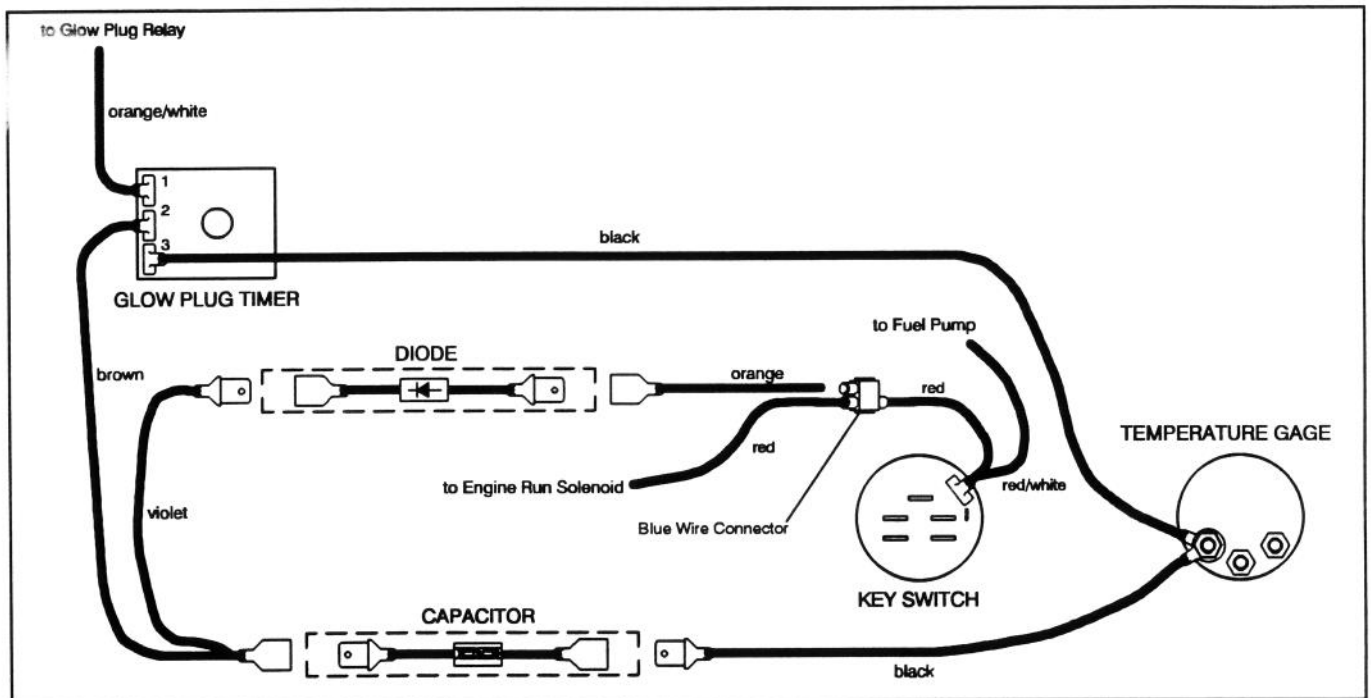

Figure 1
2. Remove (6) screws securing instrument panel to steering arm. This will allow instrument panel to be raised to work on components inside arm.
4. Locate orange wire included in kit. Insert plain end of wire into blue wire connector until end of wire contacts stop at opposite side of connector (Fig. 1).
5. Locate red and red/white wires connected to terminal on key switch. Take red wire and insert into blue wire connector (Fig. 1).
6. While holding end of orange wire and red wire in connector, squeeze connector with pliers, until metal tab crimps wires together. Wrap locking tab around connector (Fig. 1).
7. Plug terminal end of orange wire into mating end of diode assembly (Fig. 1).
12. Plug terminal end of orange/white wire, previously removed from glow plug switch, onto timer terminal # 1 (Fig. 1).
13. Locate brown and violet wire assembly included in kit. Plug terminal end of single brown wire onto timer terminal # 2 (Fig. 1).
14. Plug terminal end of combined brown and violet wires onto mating terminal of capacitor (Fig. 1).
15. Plug terminal end of violet wire into mating terminal of diode (Fig. 1).
16. Locate long and short black wires included in kit. Remove nut from ground terminal (G) on temperature gauge. Install ring terminals from both black wires to terminal on temperature gauge and reinstall nut removed.
17. Plug terminal end of short black wire into mating terminal of capacitor (Fig. 1).
18. Plug terminal end of long black wire onto timer terminal # 3 (Fig. 1).